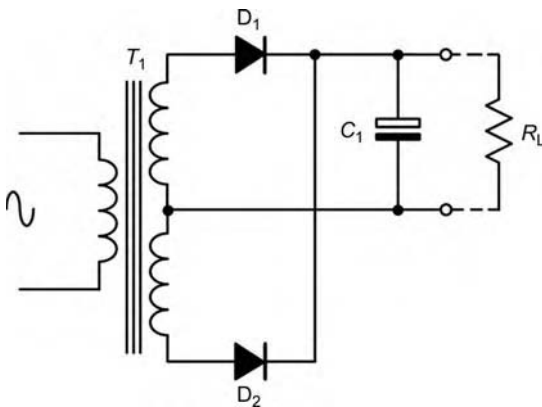

Figure 6.144
34. The circuit provided in Figure 6.144 shows a: [B2]